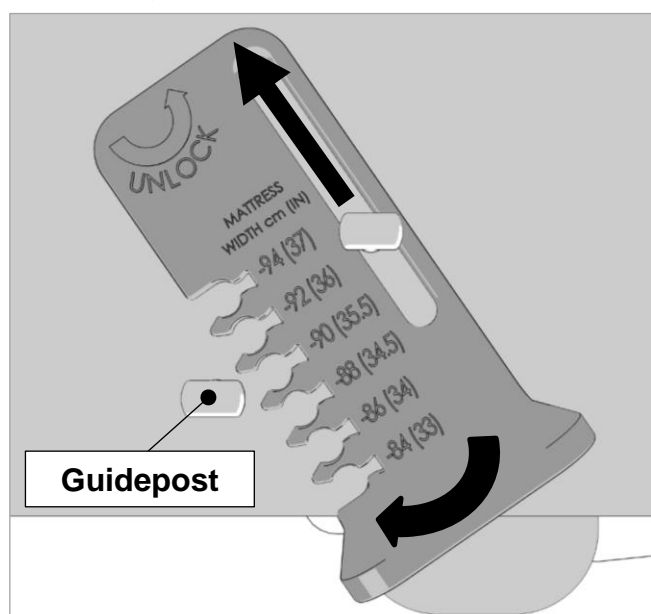

Figure 8.15
16. The Mattress Guide should be rotated clockwise and slid until the desired denoted mattress width matches up with the mattress guidepost as shown in Figure 8.15.